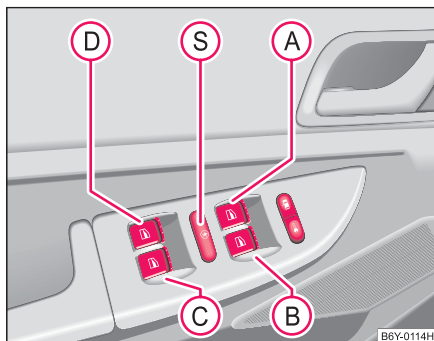

Fig. 27 Switch on the driver's door
The switch for the individual windows is located in the armrest of the driver's door ⇒ fig. 27, front passenger door and in the rear doors*.
You can deactivate the switches for the rear doors using the safety button Ⓔ ⇒ fig. 27. Repeated pressing of the safety button restores the function of the rear switches.
- It is recommended to deactivate the electrically operated power windows in the rear (safety button) **S** when children are being transported on the rear seats ⇒ page 47, fig. 27.